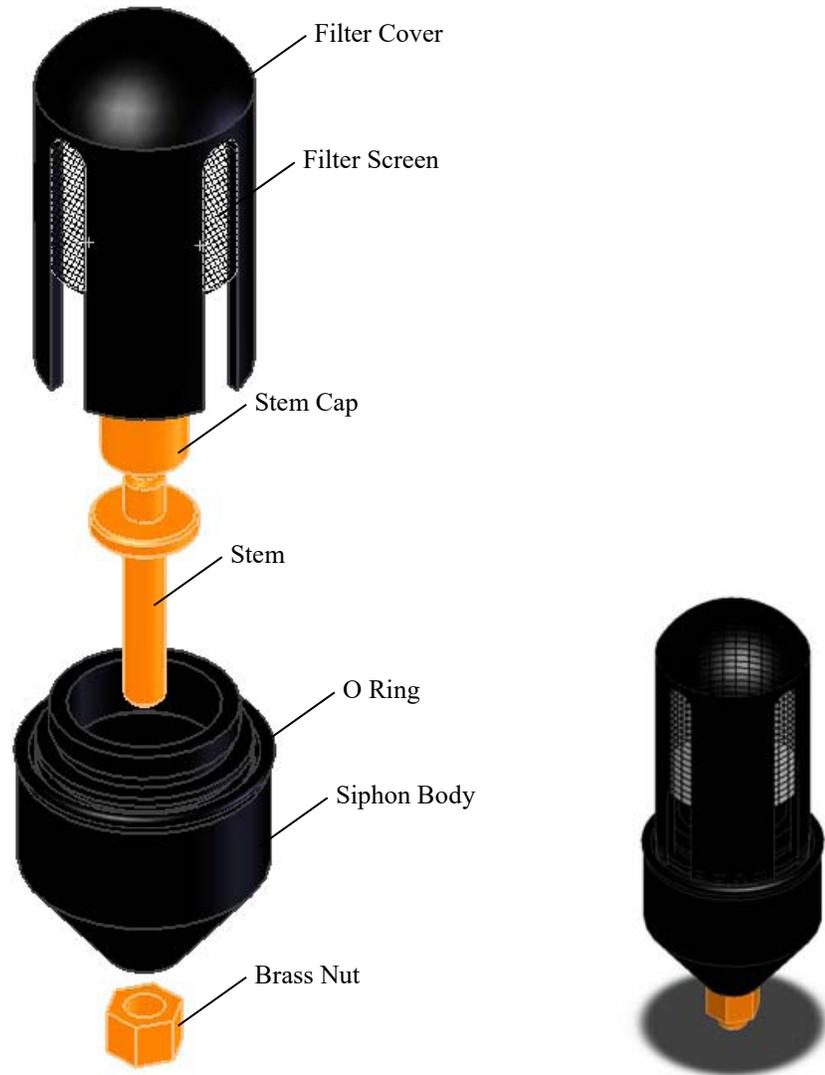

FIGURE 8-3. Filter/Siphon Assembly
- Filter (FIGURE 8-3)
- Siphon (FIGURE 8-3)
3. Disassemble the filter/siphon assembly by doing the following (FIGURE 8-3):
1. Screw cap on stem, finger tighten only (FIGURE 8-3).
2. Push stem into siphon body (FIGURE 8-3).
3. Replace nut and tighten (FIGURE 8-3).